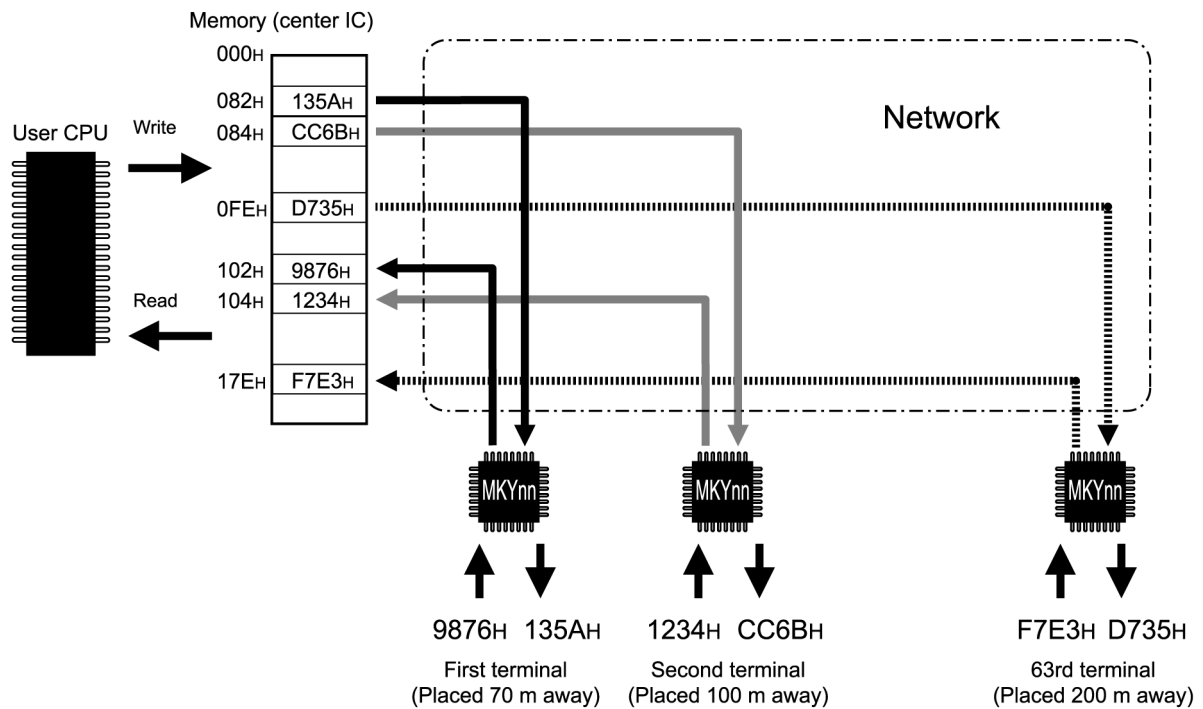

Fig. 4.2 Connection of Multiple Satellite ICs
- For example, when memory address 102H is read when data of the input pins of the first remote terminal 70 m away read 9876H and data of the input pins of the second remote terminal 100 m away is 1234H, the same data (9876H) as the input value of the first terminal can be read. Similarly, when memory address 104H is read, the same data (1234H) as the input value of the second terminal can be read (Fig. 4.2).